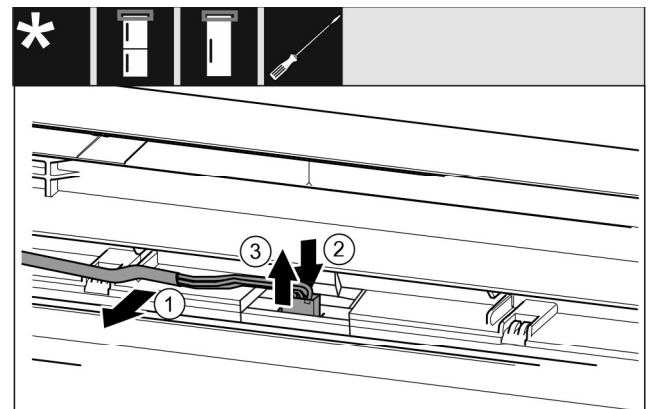

Fig. 21 Fridge/freezer combinations/freezers/cooling units
- ▶ Carefully loosen the cable *Fig. 21 (1)* from the guide in the door.
- ▶ Press back the tab *Fig. 21 (2)* behind the plug.
- ▶ Pull the plug *Fig. 21 (3)* upward carefully.